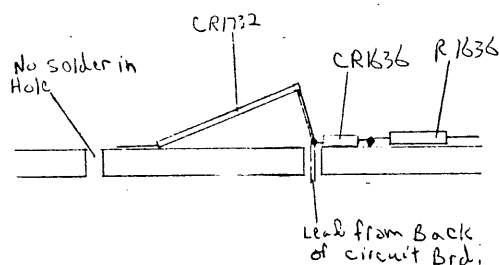

Figure 3
- B) The sampling diode CR1732, should be sitting with the side that is closest to the stripline, down on the board and next to the edge of the stripline. (See fig. 3) Do not fill hole on the stripline (next to the diode) with solder. The other end of the diode should be up off the board (see fig. 3).